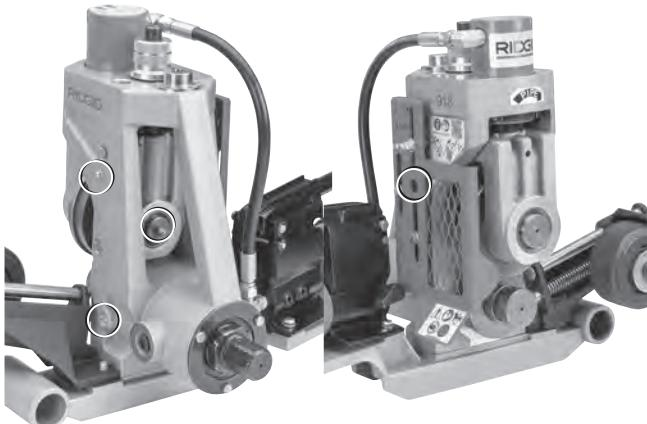

Figure 23 – Grease Fittings
- Lubricate the groover at grease fittings (See *Figure 23*). Add grease until a small amount pushes out.